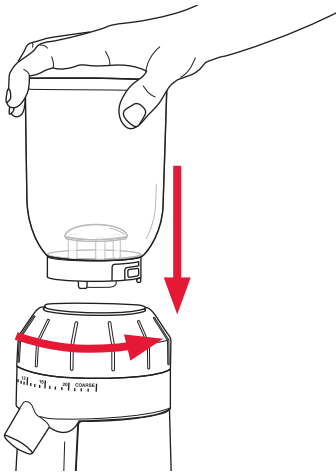

Figure 8
1. Remove the bean hopper from the motor base and store unused beans in an airtight container to preserve their freshness, see figure 8.
1. Ensure the coffee grinder is switched off and unplugged from the power outlet. Remove the bean hopper from the motor base, push down and turn anti-clockwise. See figure 8.